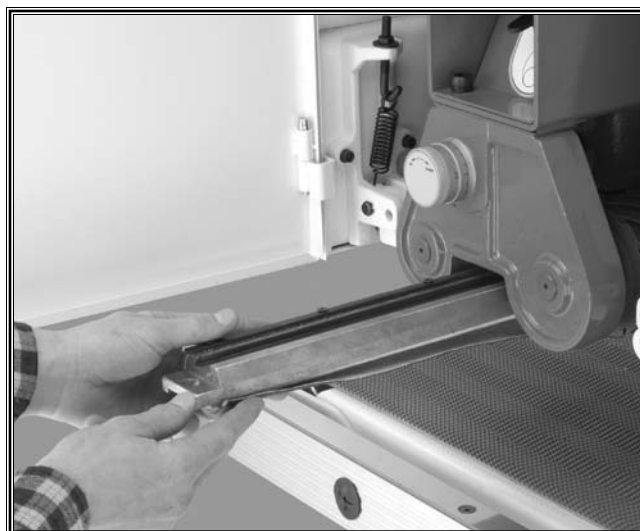

Figure 9. Installing platen.
2. Directly below the adjustment knob is a slide housing for the platen. Locate the slide housing and install the platen so that the graphite pad is on the left-hand side. **Figure 9** shows the correct insertion of the platen.